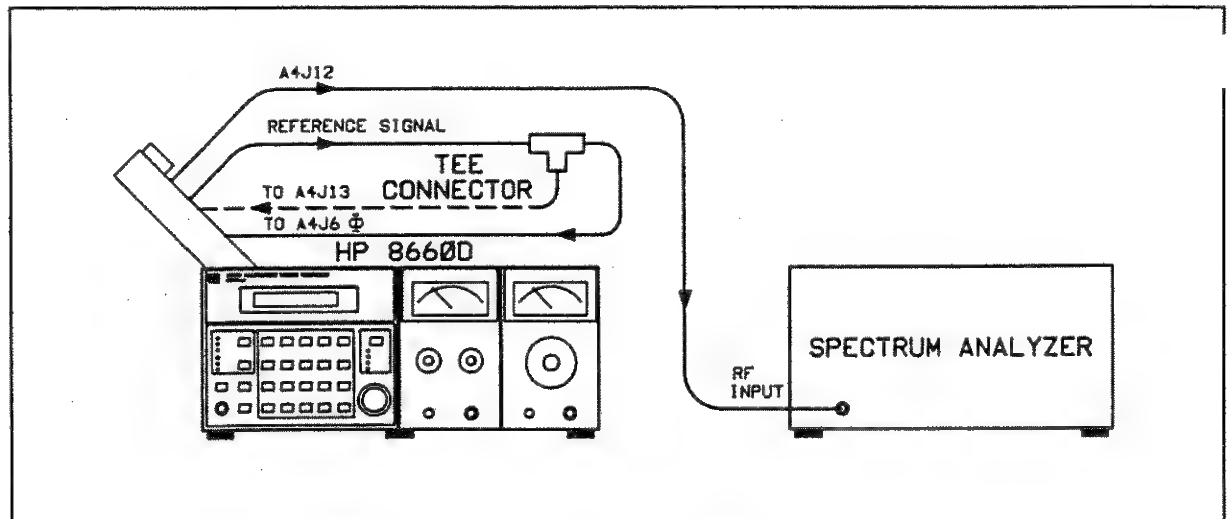

Figure 5-16. 10 MHz Trap Adjustment Test Setup
6. 10 MHz Trap Adjustment (see Figure 5-16).